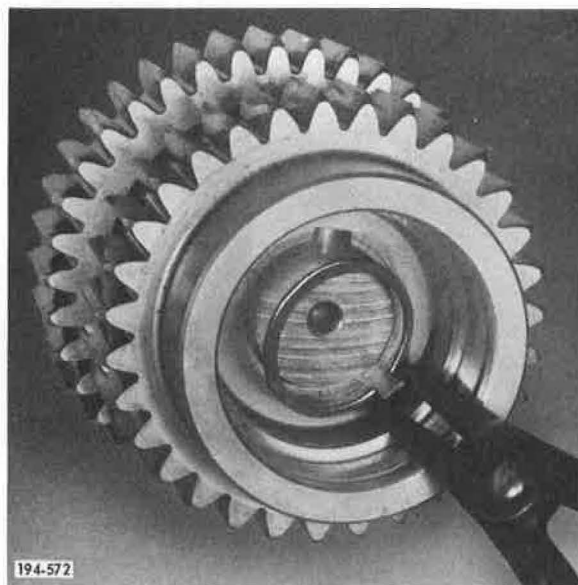

Figure 280. Installing Snap Ring
6. Install gear retaining snap ring, using snap ring pliers J-6435 or equivalent. See Figure 280.